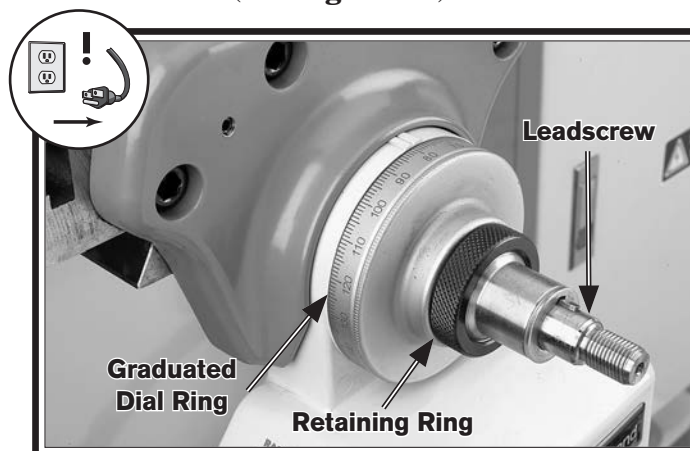

Figure 77. Example of power feed ball handle removed.
2. Remove hex nut and ball handle from power unit end of X-axis leadscrew (see **Figure 77**).
3. Unthread and remove knurled retaining ring and graduated dial ring from end of leadscrew (see **Figure 77**).